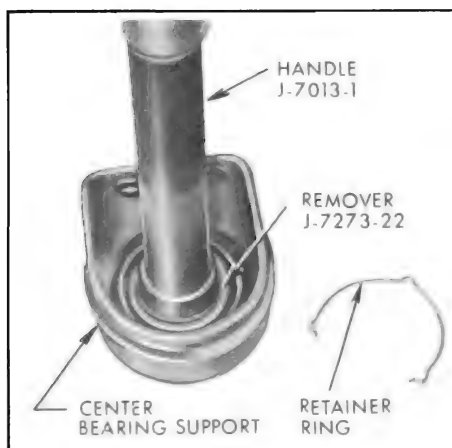

Figure 6-51—Removing Center Bearing from Support
3. Remove the retainer rings from the bearing assembly, and remove the center bearing with the assistance of Remover J-7273-22 and Handle J-7013-1 (Flight Pitch Tools). See Figure 6-51.